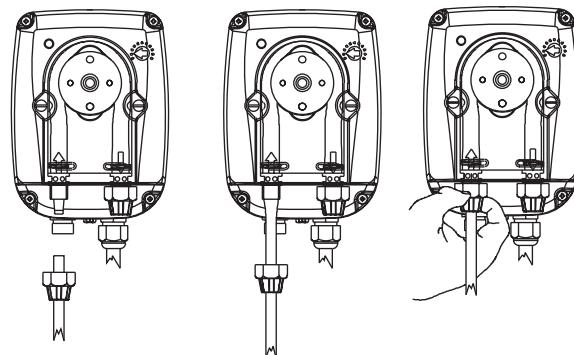

Fig. 6
- d. - **Slide the hoses over the connectors, pushing them right home, and then fix them with appropriate tube nuts. (Fig. 6).**